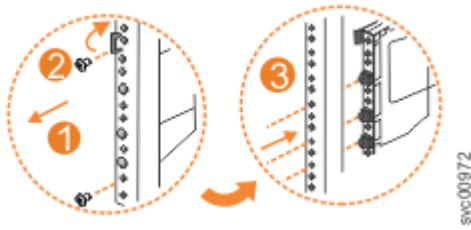

Figure 109. Remove the rail assembly from the front frame bracket
1. Remove the two screws that attach the outer rail section to the front bracket assembly, as shown in Figure 109 on page 167.
2. Remove the rail section by pulling it away from the front bracket, as shown in Figure 109 on page 167.